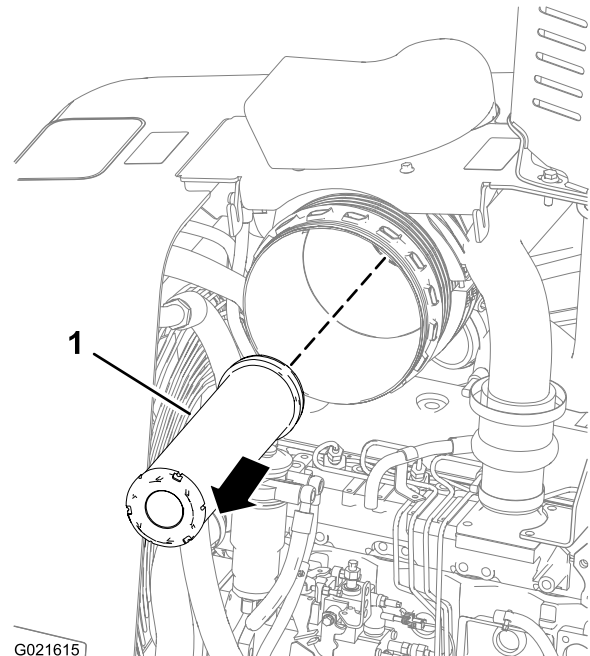

Figure 51
Pull the secondary air-cleaner element outward and remove it from the air-cleaner housing. (Figure 51).
4. Insert the new secondary air-cleaner element into the air-cleaner housing (Figure 51).